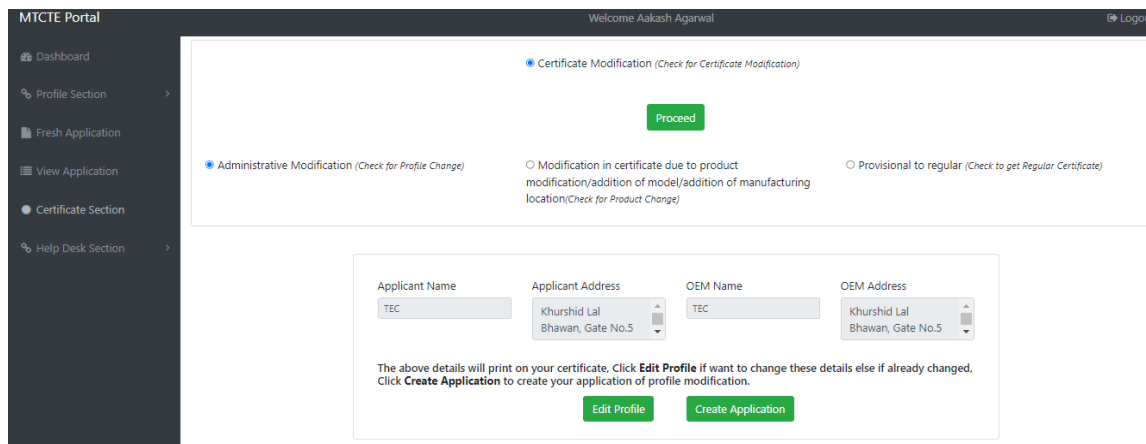

Fig. 32: Administrative Modification
- a. Click on **Administrative modification** (Fig. 32).